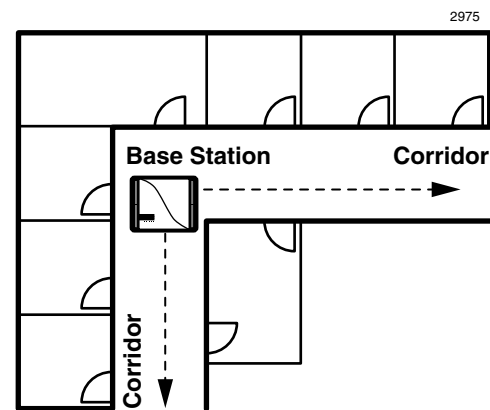

Figure 4 Maximum Line of Sight
1. Begin the signal path without obstructions even though signals can travel through obstacles (see Figure 4).